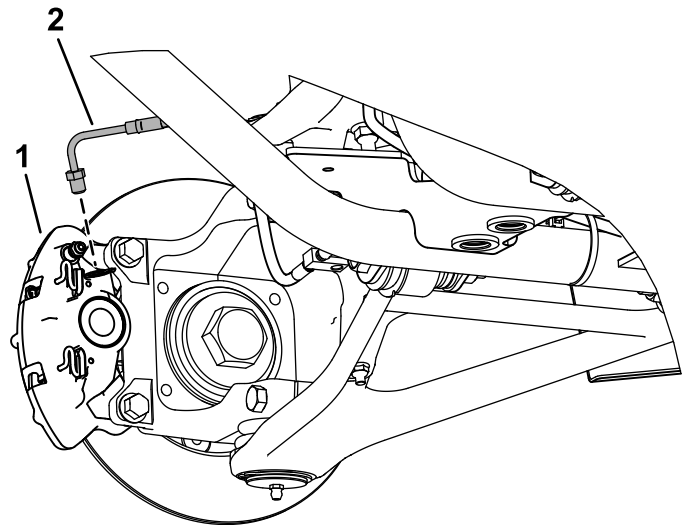

Figure 3
3. Remove the front and rear brake lines from the brake-caliper assembly (Figure 3).